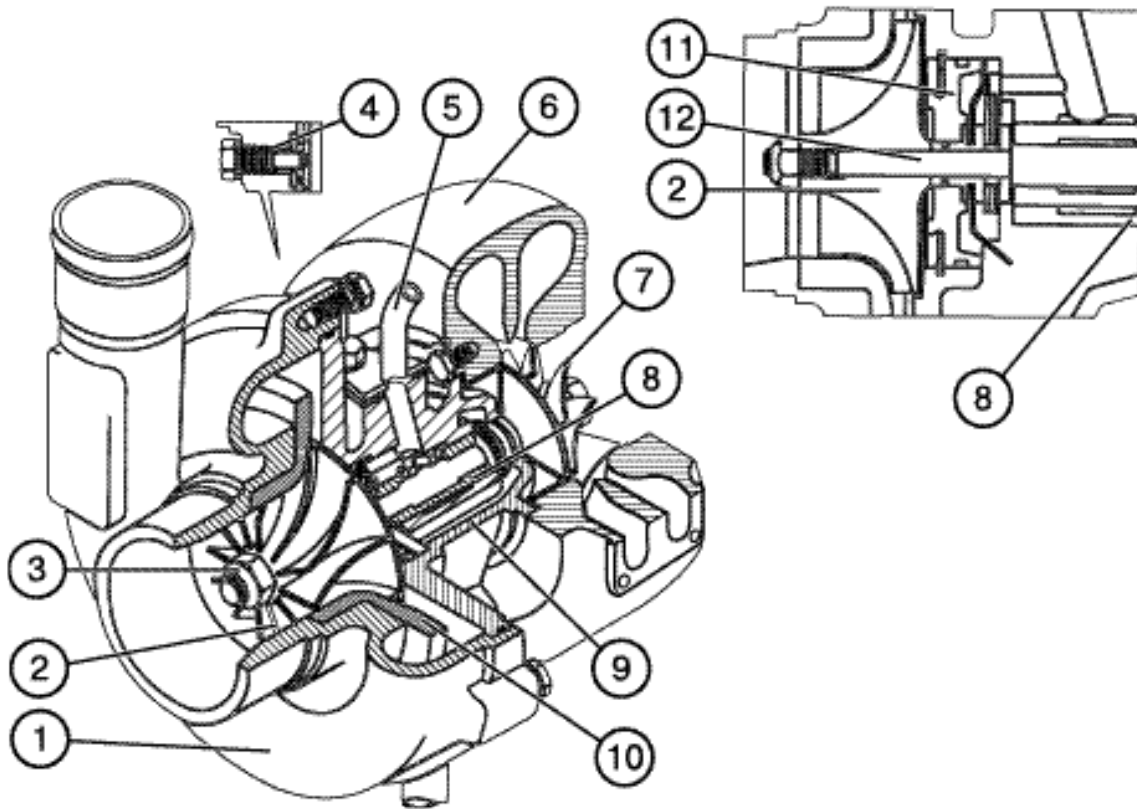

Fig. E-6. Turbocharger
The turbocharger (refer to Fig. E-6) serves to charge air into diesel cylinders, using the energy of exhaust gases. It consists of a centrifugal one-stage compressor (2) and a centripetal radial-flow turbine (7)..